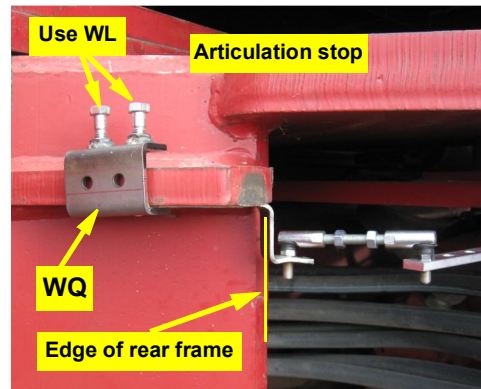

Figure 2f: Installed rod clamp bracket (see step 2i for linkage installation)
- f. To ensure a solid bracket mounting, apply the recommended amount of threadlocker **WM** to the cone point Allen set screws **WL** (not shown) and attach rod clamp bracket **WQ** to the right articulation stop. Align the vertical elbow of the bracket with the edge of the rear frame (Figure 2f).